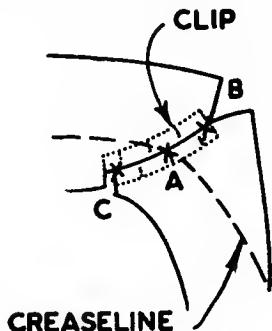

Fig. 198. Completing the gorgeline.
- A. Turn under the seam allowance of the facing on the gorgeline (Fig. 198, A-B).
- D. Turn under the seam edge on the gorgeline of the upper collar. Clip and trim the seam as necessary (Fig. 198).
- F. Slip-stitch (Fig. 198, A-B) with fine,
- A. Since the neckline seam is a continuation of the gorgeline, continue as for the gorgeline (Fig. 198, B-C). Clip and trim as necessary.